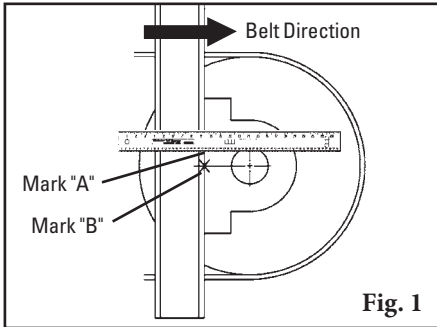

Fig. 1
- 2b. Put a level on top of the pulley shaft and mark A at the structure.** Measure down from Mark A half the diameter of the pulley shaft and mark B, locating the shaft centerline (Fig. 1).